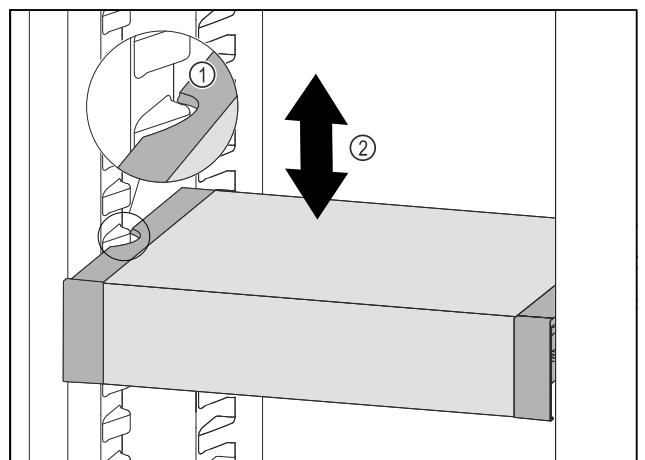

Fig. 103
- ▶ Pull VarioSafe forwards until the recesses in the side of the VarioSafe are at the level of the support rib in the refrigerator compartment. Fig. 103 (1)
- ▶ Move VarioSafe up or down in the refrigerator compartment until the desired height is reached. *Fig. 103 (2)*